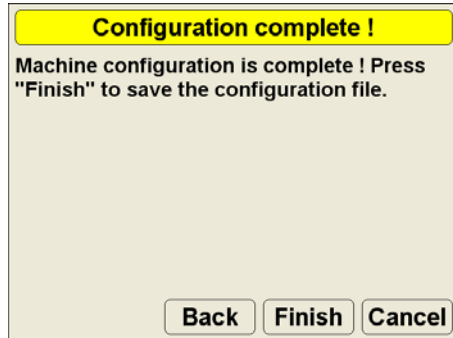

Figure 5-17. Save Machine Configuration
7. Press **Finish** to save the machine configuration file (Figure 5-17).